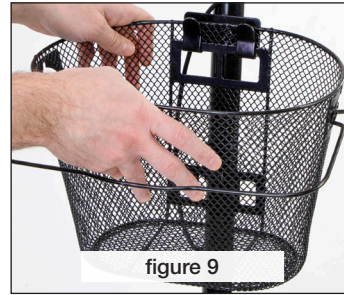

figure 9
2. Align the basket over the vertical brackets on the steering column. Slide basket down over the brackets to secure in place (fig 9).